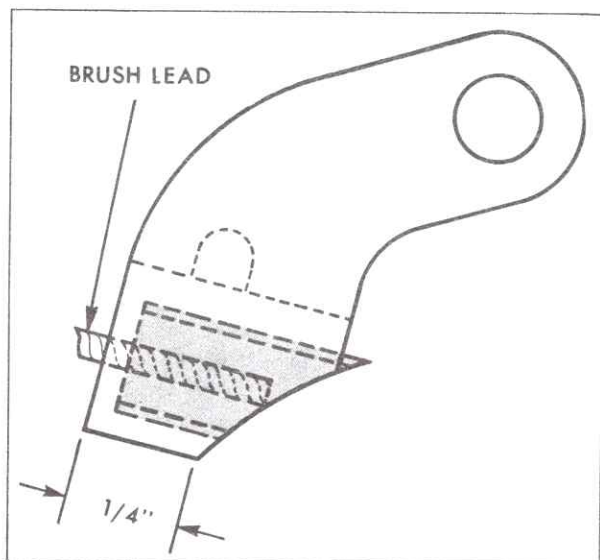

Fig. 6-65 Maximum Brush Wear
2. Inspect brushes for excessive wear and brush pigtails for signs of fraying, Fig. 6-65.
The brushes may be allowed to wear until part of the holder itself is actually worn away as shown in Fig. 6-65. This will not damage the slip rings or affect performance. The brushes should not be allowed to wear beyond the 1/4 inch dimension shown in Fig. 6-65. Replacement is accomplished by installing a new holder, brush, lead, and terminal assembly. Note that there are both right and left hand holders and springs. Both brush holders should be to the right of their pivot pin as viewed from the outside of the rectifier end frame.